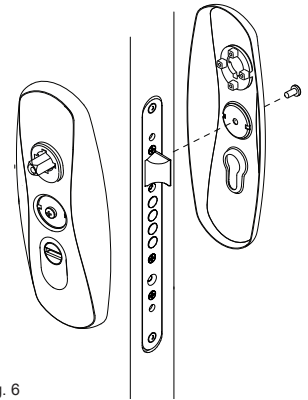

Fig. 6
6. Fix internal cover onto metal base plate and tighten the screw (Fig 6).